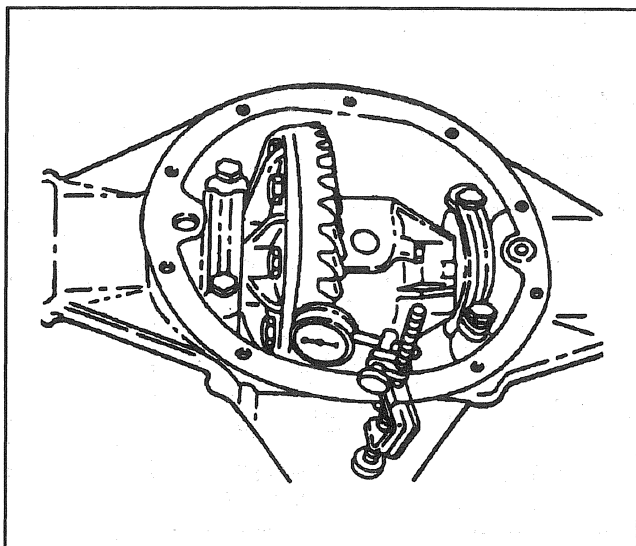

Figure 23—Checking Ring Gear Backlash
3. Check and record the backlash at three or four points around the ring gear (Figure 23).